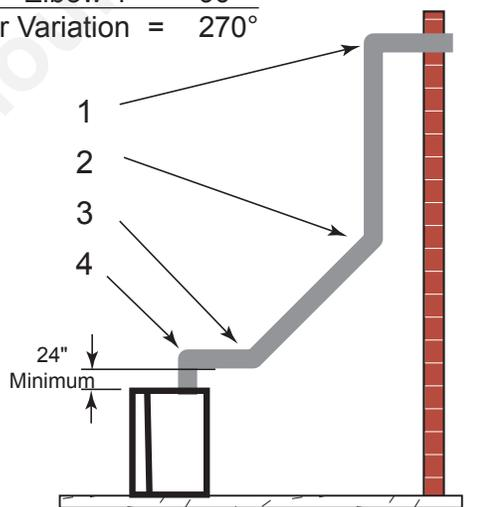

Figure 18 - Maximum Elbow Usage
- The maximum number of 45° elbows permitted per side wall installation is two (2). These elbows can be installed in either the vertical or horizontal run.
- The maximum number of elbow degrees in a system is 270°. Figure 18